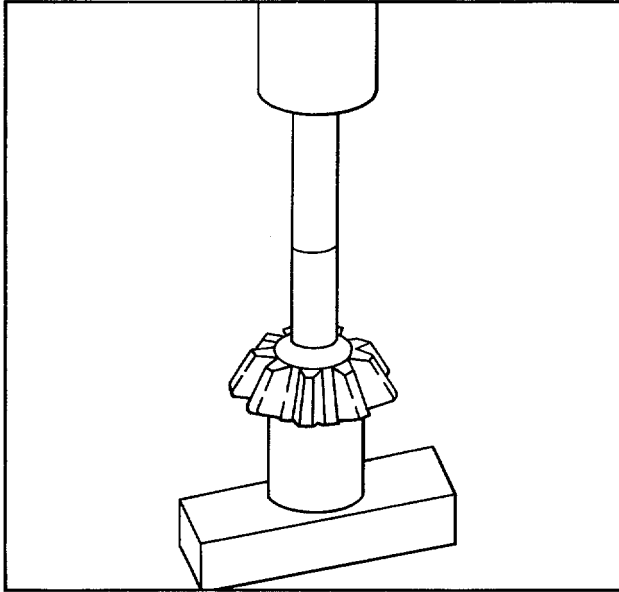

Figure 11.
- d. Use bar to press burnishing ball through bushing (refer to Fig. 11).